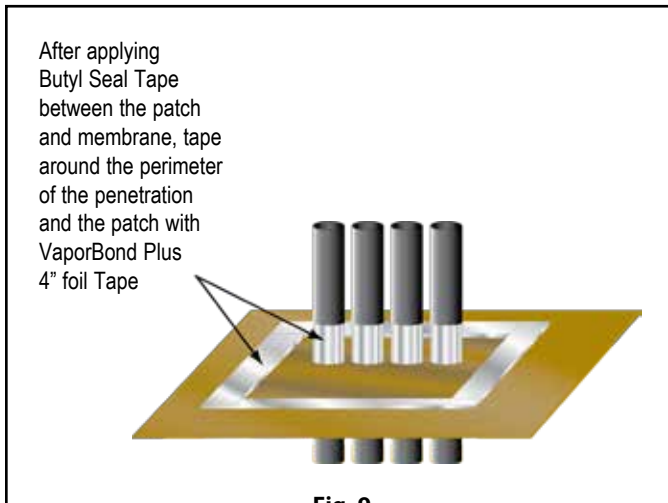
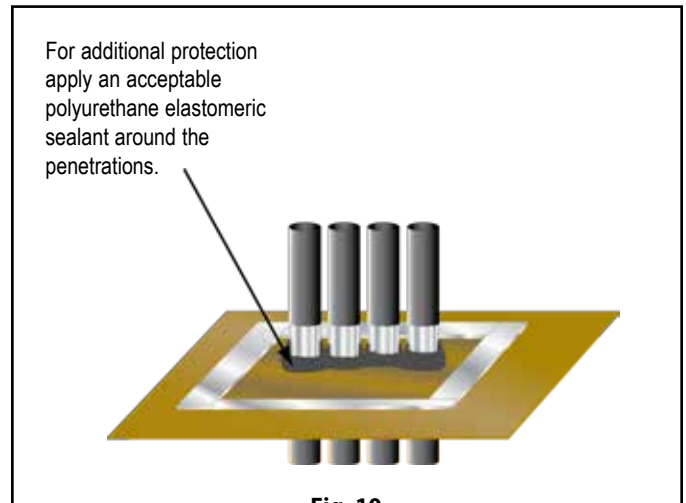

Fig. 9
Fig. 10
- E) After applying Butyl Seal Tape between the patch and membrane, tape around each of the penetrations and the patch with VaporBond Plus 4" foil tape. (Fig. 9) For additional protection apply an acceptable polyurethane elastomeric sealant around the penetrations. (Fig. 10)